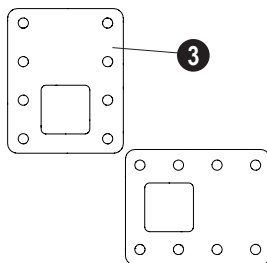

FIG. 142
- The offset tube mounting plates can be rotated 90, 180, or 270 degrees to achieve the desired orientation (see Figure 142).